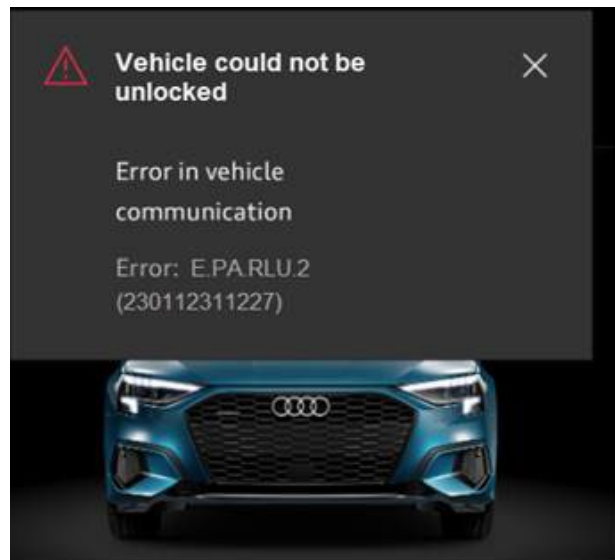

Figure 2: Message for Android devices
- E.PA.RLU.2 (Android - Figure 2).